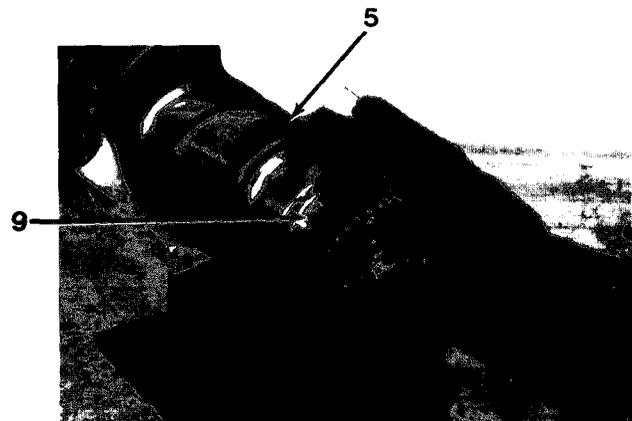

Figure 6-18
2. Heat gear (9, Figure 6-18) for 45 minutes at 250 degrees F (121 degrees C).
3. Install gear (9) on crankshaft (5).